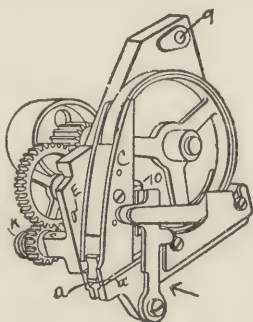

FIG. 14.
the star. To renew these parts, remove the two screws (9, 10, Fig. 14) in the assembler plate and the whole arrangement can be removed and the assembler belt slipped off the upper pulley. The nut (K) can be taken off and the spring or the friction disk renewed. It should not be made so tight, however, as to prevent the slipping of the friction when occasion demands.
"These two assembler strips (a, a', Fig. 14) should be kept flush with the ends of the rails (C). There is a screw under the bracket which binds these strips, and it can be loosened and the strips removed and their ends squared up. A good deal of experimenting has been done with this part of the assembling device, so if you happen across machines without assembler strips, or with steel ones in place of fiber, or with steel assembler rails faced with flat springs, you'll know it's part
of the development of the machine. The assembling elevator is raised a trifle higher in some machines than in others, and the matrix detaining plates on the assembler, which fit close against the assembler strips (*a*, *a'*), are shaped differently in different machines; their purpose is, however, in all cases, to prevent thin matrices slipping in between the elevator and the bracket, and the assembler strips should come close against the plates. These plates must be renewed occasionally. You can get at them, also, when the assembling device (Fig. 14) is removed.